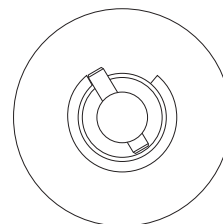

Figure 3
10. Turn the valve to its counterclockwise position, as shown in **Figure 3**. The valve and actuator are now both in the LOAD position.